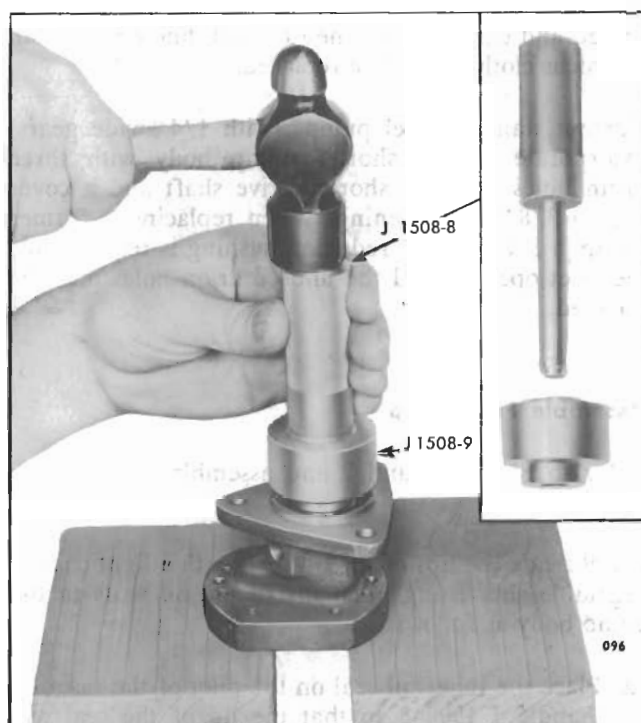

Fig. 9 - Installing Outer Oil Seal
- c. Place the shorter end of the adaptor J 1508-9 over the pilot and against the shoulder of the installer handle. Place the outer oil seal on the pilot of the installer handle with the lip of the seal facing the adaptor. Then insert the pilot of the installer handle into the pump body and drive the seal in (Fig. 9) until the shoulder of the adaptor contacts the pump body. Thus the oil seals will be positioned so that the space between them will correspond with the drain holes located in the bottom of the pump body.